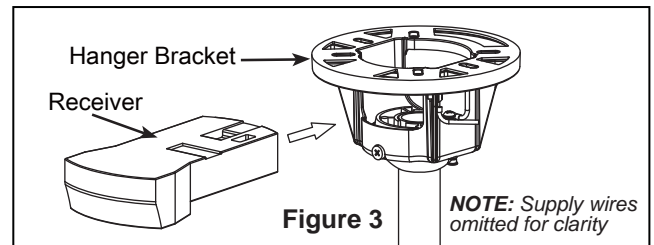

Figure 3
2. Slide the receiver into the hanger bracket as shown in Figure 3.